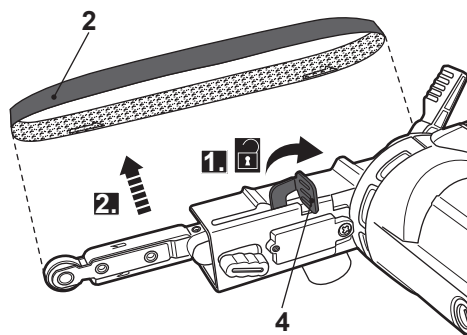

Fig. 6
- > Pull the clamp lever (4) backward all the way out and remove the sanding belt (2) (Fig. 6).
- > Attach a new sanding belt (2) as required.